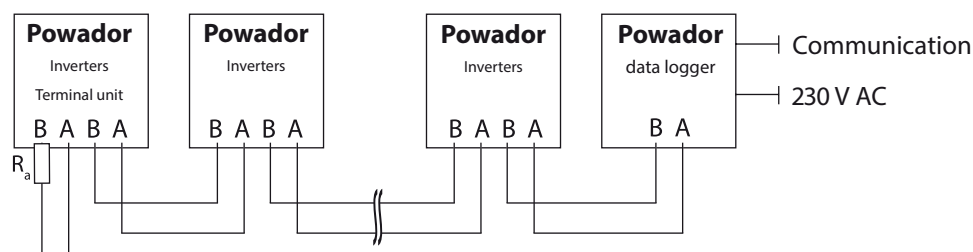

Figure 26: RS485 interface wiring diagram
- Wire B (+) with wire B (+) (see Figure 26 on page 29)